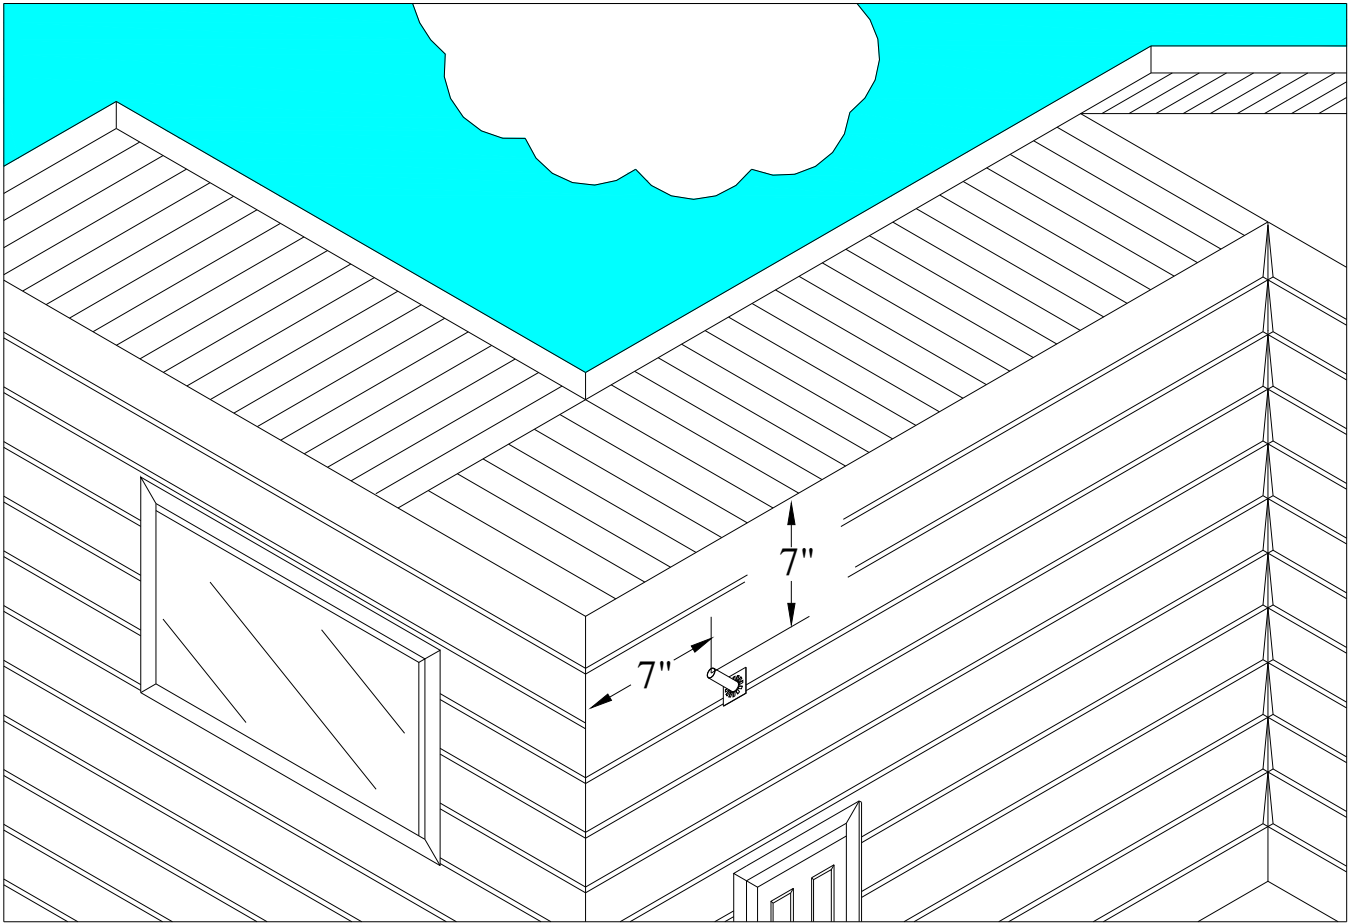

Figure 11: Minimum Clearance under an Eave
- Figure 11. However, when the 2" pipe is less than 18" from the bottom of the eave, we recommend the 2" inch flue extend just beyond the eave to prevent the possibility of frost. (Adhere to any code requirements for clearances to opening in the building).